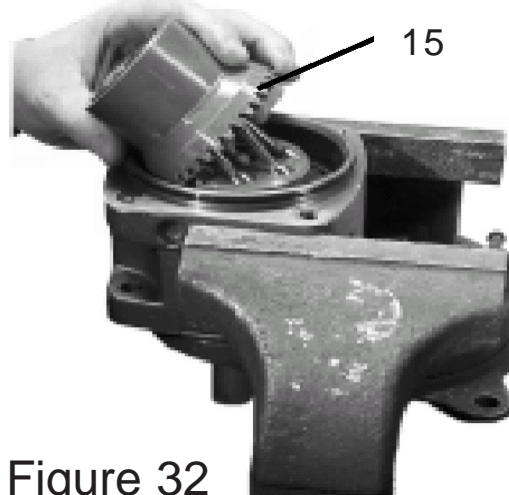

Figure 32
15 Install Cylinder Barrel. When installing the cylinder barrel (item 15), it must be timed. There are punch marks on the Shaft Gear and the gear of cylinder barrel, these marks must be aligned as shown below. (See Figure 32) Set this assembly aside for now.